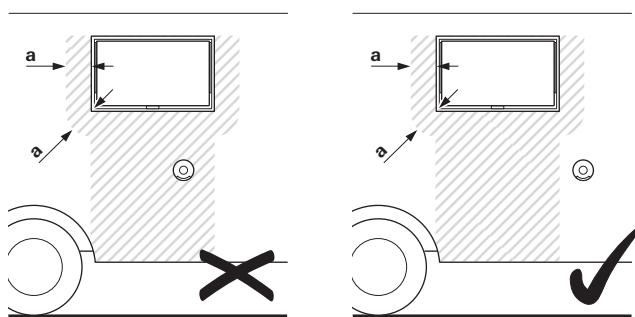

Fig. 4
Install the wall cowl so that there is no fuel tank filler neck or fuel tank breather opening within 500 mm (R). (Fig. 3). There must also be no living area ventilation openings or window openings within 300 mm (Fig. 4).